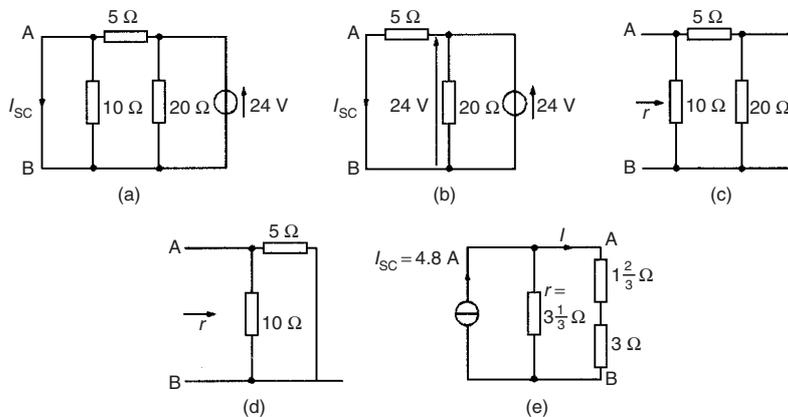

Figure 13.60
- (i) The branch containing the $3\ \Omega$ resistance is short-circuited as shown in Fig. 13.60(a)
- (ii) From the equivalent circuit shown in Fig. 13.60(b),
- (iii) If the $24\ V$ source of e.m.f. is removed the resistance 'looking-in' at a break made between A and B is obtained from Fig. 13.60(c) and its equivalent circuit shown in Fig. 13.60(d) and is given by:
- (iv) From the Norton equivalent network shown in Fig. 13.60(e) the current in the $3\ \Omega$ resistance is given by: